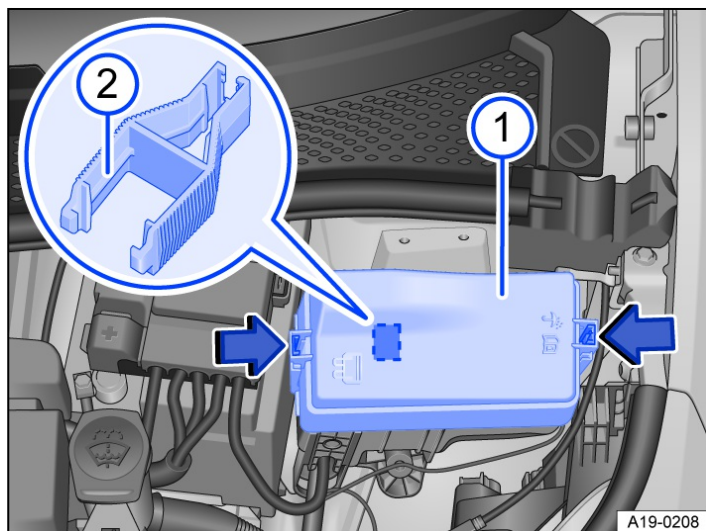

Fig. 1 In the bonnet space: fuse box with plastic grippers.
There may be a pair of plastic grippers for removing fuses in the fuse box → Fig. 1 (2).